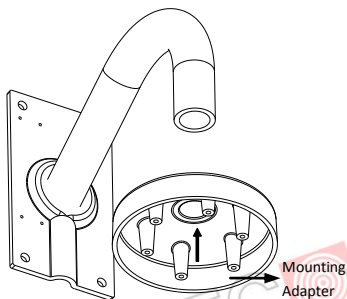

Figure 2-11 Install the Mounting Adapter I7-B1256
2. Install the wall mount and mounting adapter as shown in Figure 2-11.